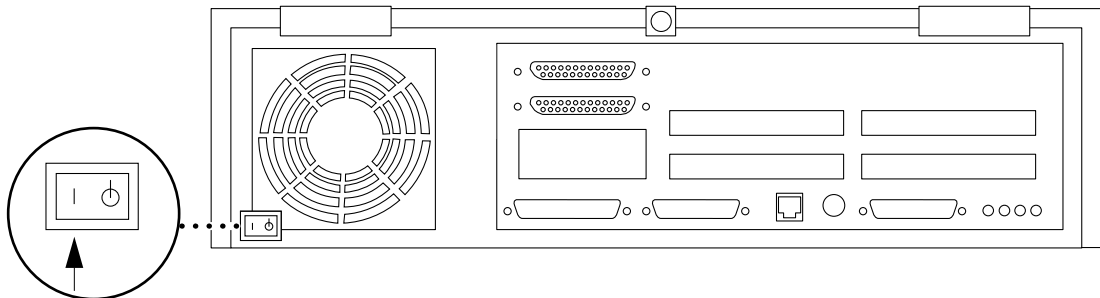

Figure 6-5 Power On/Standby Switch
- Power On/Standby switch on the system unit back panel (Figure 6-5).